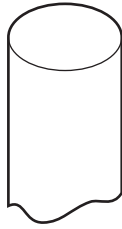

Fig. 10
- (c) (i) Fig. 10 shows one end of the dowel used to join the legs.
Add sketches to Fig. 10 to show how the end of the dowel could be prepared to make it easier to be glued into the leg.